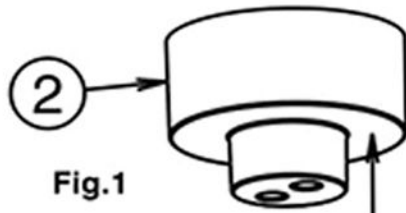

Fig.1
- 1a) Prior to pouring of the concrete slab, install the pipework for hot & cold water supplies in accordance with AS/NZS 3500.1. Slide the installation template (2) over the vertical section of each pipe (1) which will penetrate the slab and position the bottom face (see Fig.1 above) of the template at the approximate finished floor level. Crimp or cap the end of each pipe taking care that heat does not damage the installation template (2). Tag the pipe which will supply hot water for identification later in the installation.
1c) Mark the centre position of the desired location for the Mixer then drill a hole  $\text{Ø}60 \pm 2$  mm through the flooring base materials. Install the pipework for hot & cold water supplies in accordance with AS/NZS 3500.1. Slide the installation template (2) over the vertical section of each pipe (1) protruding from the floor and position the bottom face (see Fig. 1 above) of the template on the top surface of the floor. Crimp or cap the end of each pipe taking care that heat does not damage the installation template (2). Secure the pipework under the floor using suitable brackets, clips or hangers. Care must be taken that undue strain is not applied to the vertical pipe legs which may influence the pipe centres when the installation template is removed after floor trades are complete.